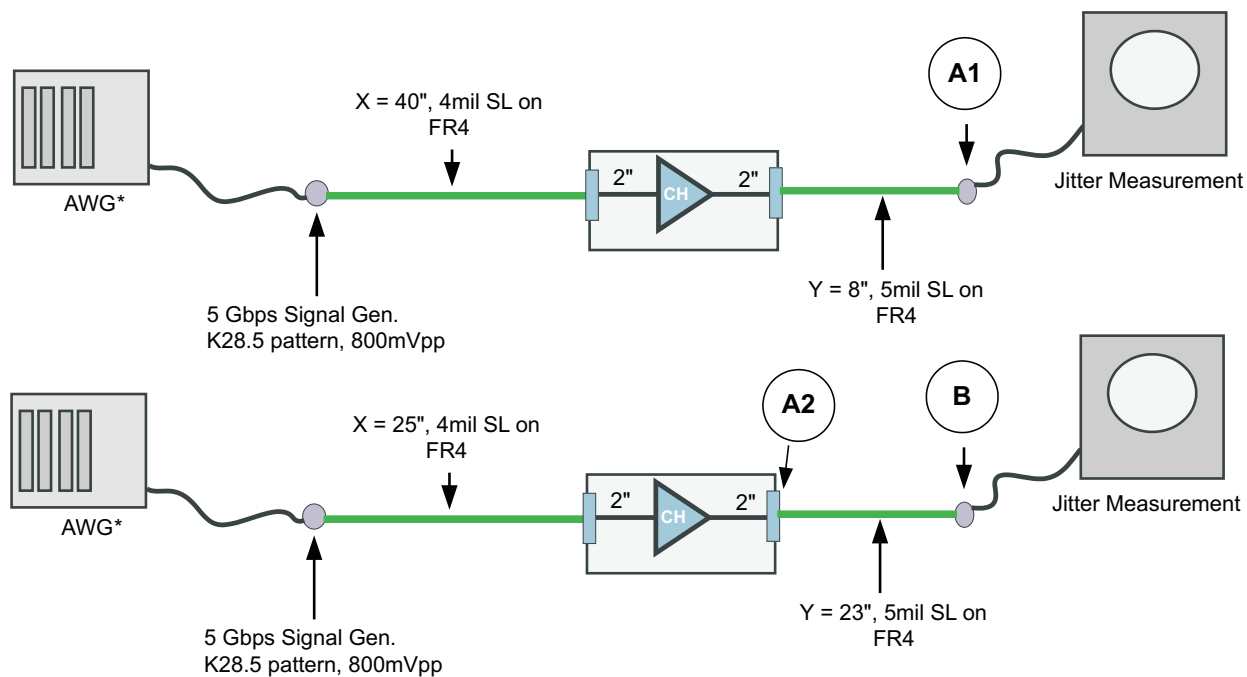

Figure 8. Jitter Measurement Setup
(1) Refer to Figure 8 with ±K28.5 pattern, –3.5dB DE from source AWG